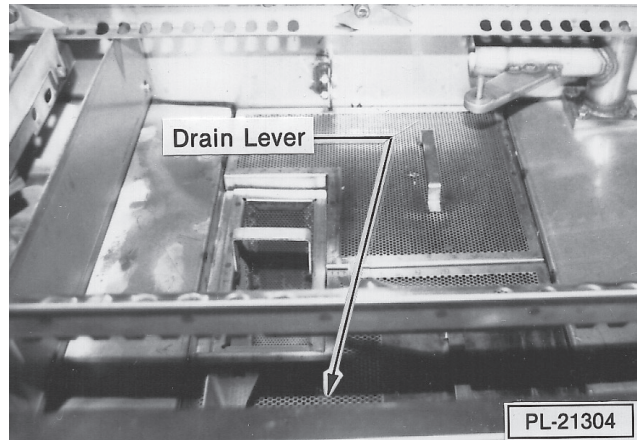

Fig. 12
Move drain lever(s) down to close the drain(s) (Fig. 12), or close the door(s) to automatically push the lever(s) down.
4. Open drain(s) by pulling drain lever(s) up (Fig. 12).